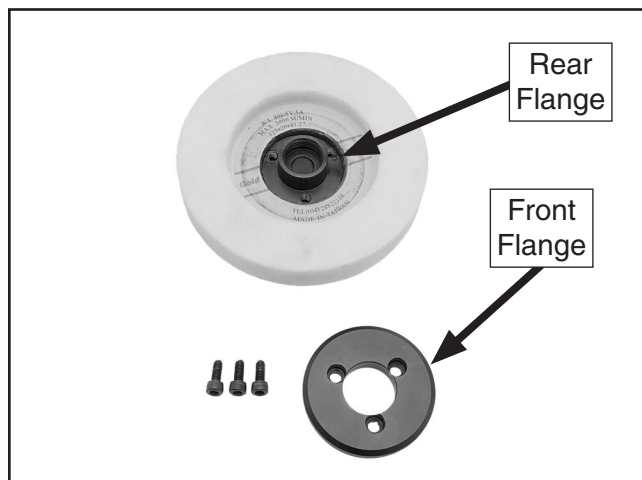

Figure 21. Front flange removed.
- Separate the front flange from the rear flange, as shown in **Figure 21**.